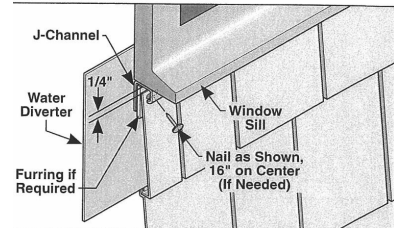

Fig.16
- Measure and cut panels around windows, allowing $\frac{1}{4}$ " into all window channels for movement. (see Figure 16).